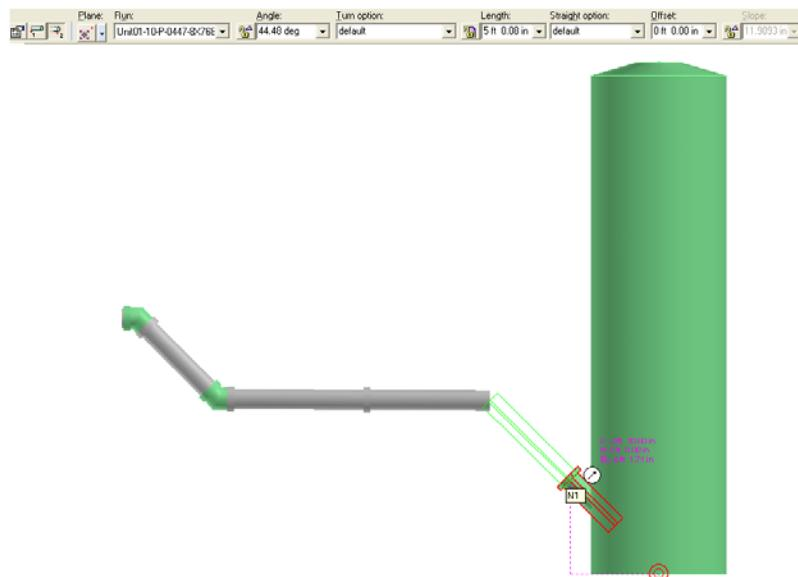

Figure 18: Locating the Piping Nozzle By Using the Point Port Glyph
31. Locate the piping nozzle **N1** until SmartSketch displays point port glyph, as shown in Figure 18.